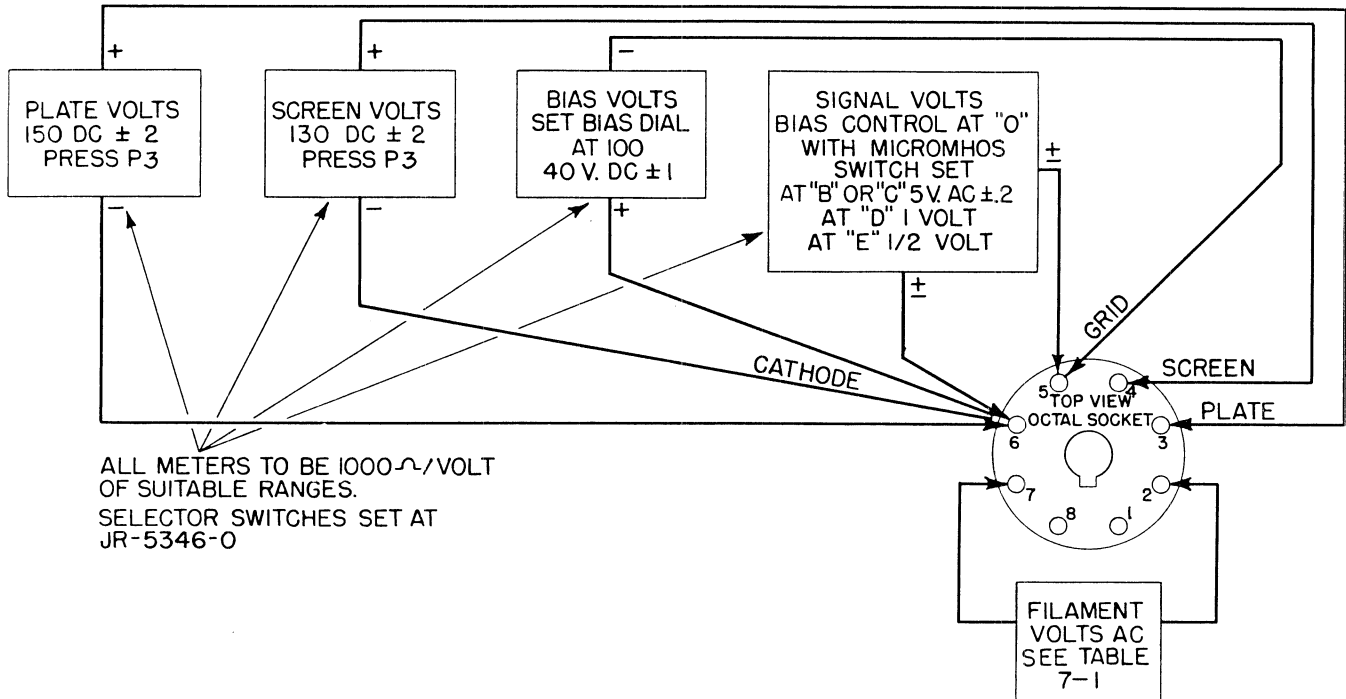

Figure 7-1. Voltage Calibration Check Diagram
Voltage tests must be made with an external multimeter, or individual meters of 1000 ohms per volt sensitivity having suitable ranges of ac and dc connected as illustrated by Figure 7-1. The Multi-meter section of the TV-3B/U cannot be used for these tests. If the voltages are not in accordance with the following paragraphs 7a(2) through 7a(6), refer to paragraph 8 and Table 7-2 of this section for probable causes.
(2) PLATE VOLTAGE CHECK (150 vdc.)
(a) Connect the positive (+) terminal of the voltmeter to contact No. 3 of the OCTAL test socket, X-111, and the negative (-) terminal to contact No. 6 of the same socket. (See figure 7-1.)
(a) Connect the positive (+) terminal of the voltmeter to contact No. 4 of the OCTAL test socket X-111, and the negative (-) terminal to contact No. 6. Set BIAS control to zero. (See figure 7-1.)
(b) Connect the positive (+) terminal of the voltmeter to contact No. 6 of the OCTAL test socket X-111 and the negative (-) terminal to the No. 5 contact. (See figure 7-1.)
(b) Connect the terminals of the ac voltmeter to contacts 5 and 6 of the OCTAL test socket X-111. (See figure 7-1.)
(1) Turn on the equipment and set all controls in accordance with paragraph 7a(1) of this section.
(2) Connect a voltmeter between pins 5 and 6 of OCTAL socket X-111 as illustrated by figure 7-1.
(3) Set BIAS control R-139 at 100.
(4) Adjust slider "A" of R-145 until the meter reads 40 volts dc.
(5) Connect a voltmeter between pins 4 and 6 of OCTAL socket as in figure 7-1.
(6) Press buttons P3 and P2 and adjust slider "B" of R-145 until the meter reads 56 volts dc.
(7) Tighten the slider screws and recheck the voltages.